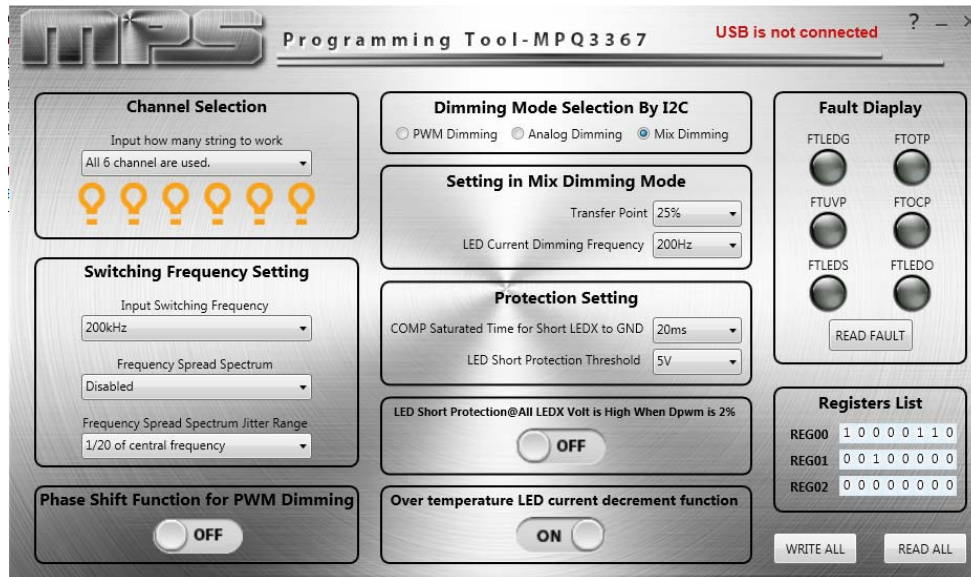

Figure 1: MPQ3369 GUI Interface
- a. Check that the I2C kit is communicating with the computer. If the message “USB is not connected” appears on the GUI, then the I2C kit cannot communicate with the computer (see Figure 1). Otherwise, communication should be functioning properly.